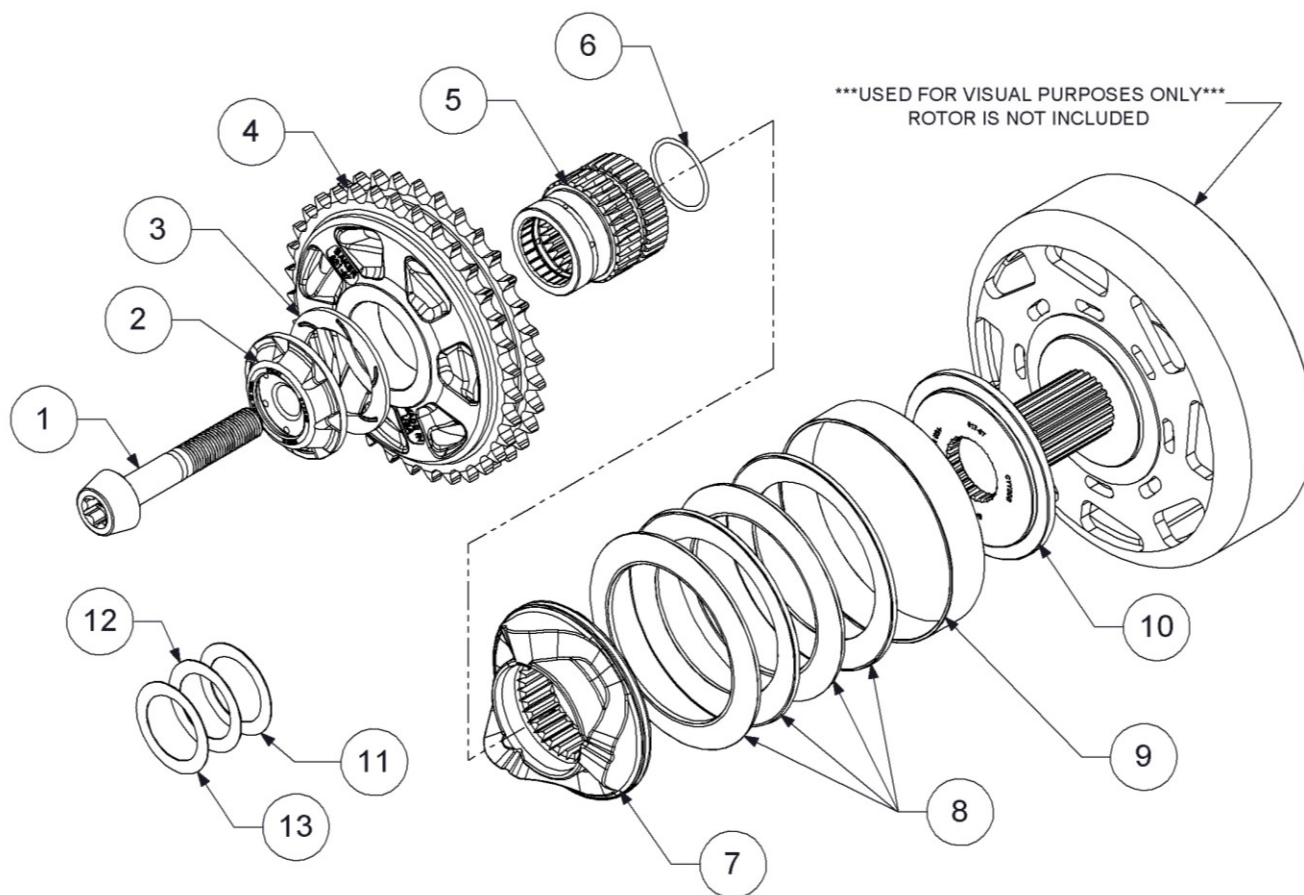

Figure 4, Detailed View
- 2) The compensator sprocket installs in the same sequence as shipped and as shown in figure 4 (detailed view).